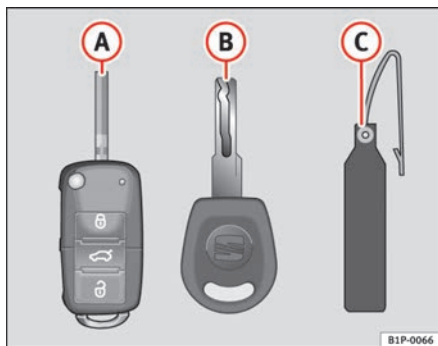

Fig. 62 Set of keys
- one remote control key ⇒ fig. 62 **(A)** with folding key bit,
Duplicate keys are only issued with the key number on the key tab ⇒ fig. 62